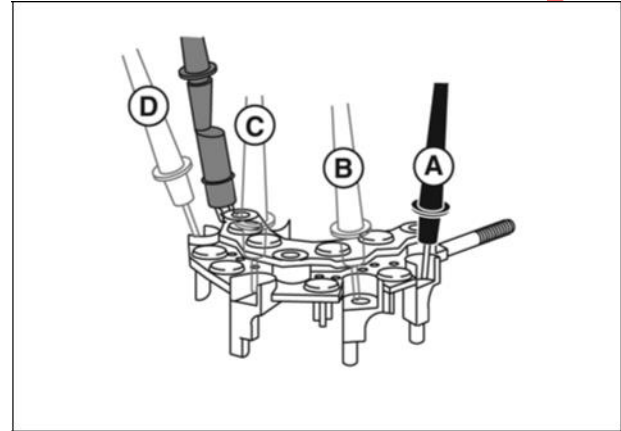

Figure 34
1. Assemble rotor to drive end housing (Figure 34).